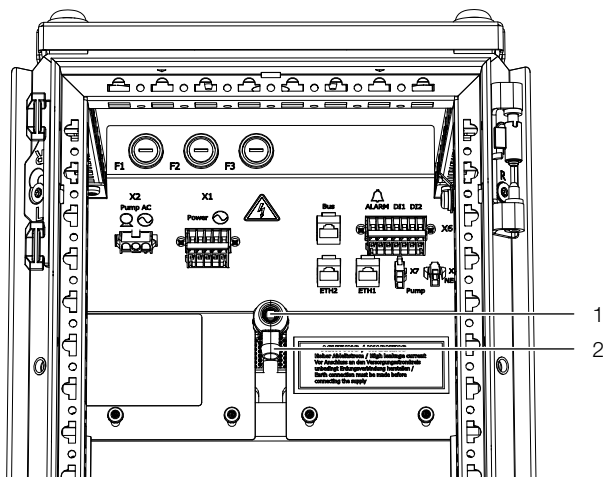

Fig. 95: Bleeding the air from the heat exchanger
- Connect the drainage hose, included with the accessories, on the top at the vent valve on the plug connector (fig. 95, item 2).
- Open the vent valve (fig. 95, item 1) with the square key supplied.